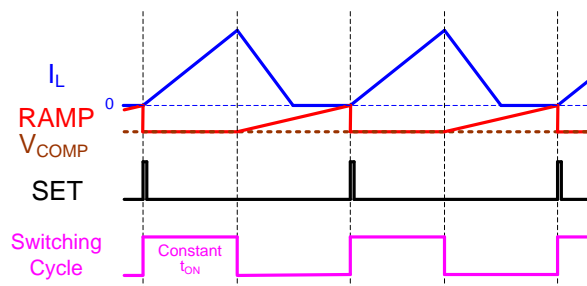

Figure 17: DCM under Light-Load Conditions
DCM is applied to optimize efficiency under light-load or no-load conditions. While the synchronous rectifier (SR) turns on, the inductor current falls linearly. When the load current continues to decrease, the I_L valley reaches 0A. If DCM is employed, the active SR switch stops switching once I_L reaches 0A (see Figure 17).